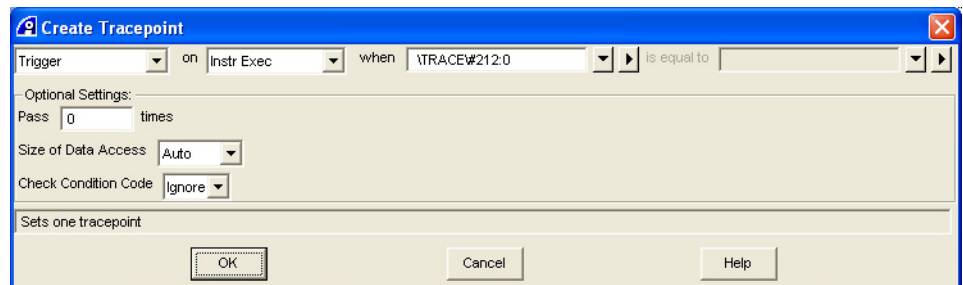

Figure 7-6 Create Tracepoint dialog box
2. Select **Create Tracepoint...** from the context menu to open the Create Tracepoint dialog box. Figure 7-6 shows an example: